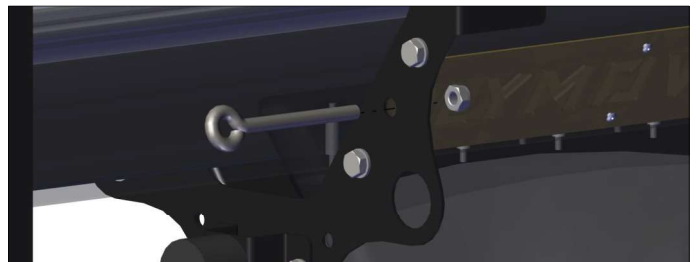

Fig. 6.3.4 Mounting the curl hooks on the crab.
- Mount the curl hooks for the rope on the crab using self-tapping screws ¼ x 1 in. (6.3 x 25 mm) Refer to fig. 6.3.4..